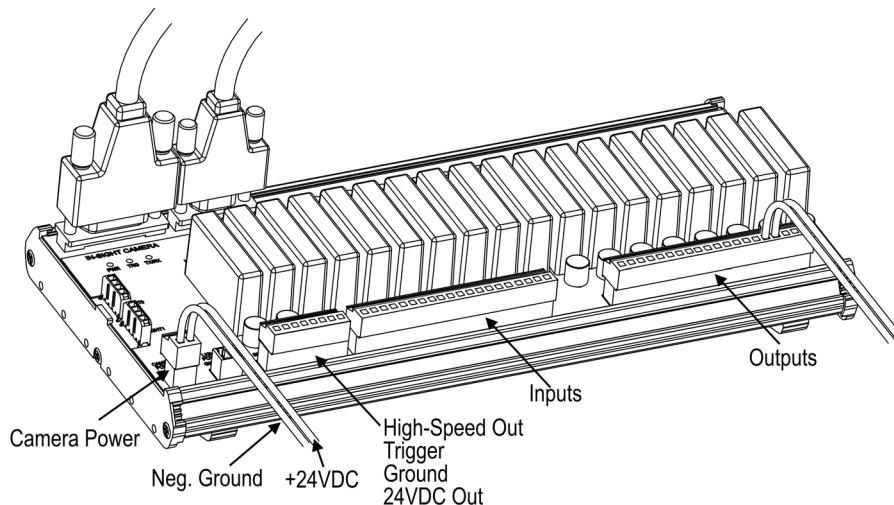

Figure 2-9: Connecting +24VDC and Ground Wires
6. Plug wire leads from a 24VDC supply for the +24V power and ground into the 2-pin terminal plug labeled "Camera Power" on the Expansion Module (Figure 2-9).